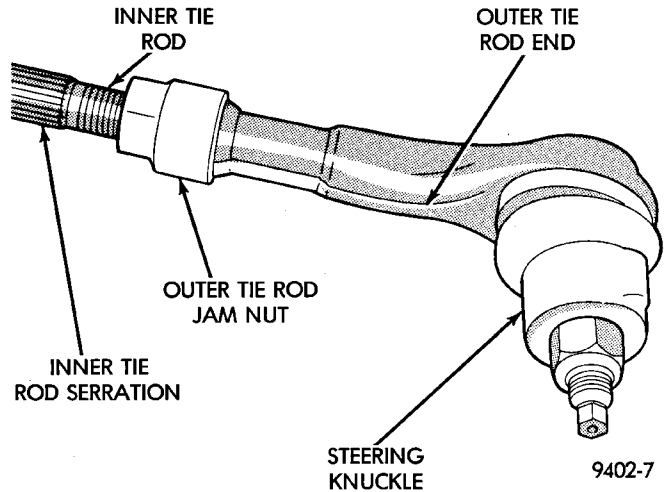

Fig. 19 Outer Tie Rod
(1) Loosen the inner tie rod to outer tie rod jam nut (Fig. 19).
(1) Install outer tie rod onto inner tie rod. **Make sure jam nut is on inner tie rod (Fig. 19).**
(2) Do not tighten jam nut.
(3) Install the tie rod end into the steering knuckle. Start tie rod end to steering knuckle attaching nut onto stud of tie rod end. While holding stud of tie rod end stationary, tighten tie rod end to steer-
(4) Adjust the front Toe setting on the vehicle. Refer to the Toe Setting Procedure in Front Suspension Service Procedures in this group of the service manual. Refer to the Specifications Section at the end of this group for the desired front Toe specification.
(5) Torque the tie rod jam nut (Fig. 19) to a torque of 55 N·m (40 ft. lbs.) torque.
(6) Adjust the steering gear to inner tie rod boots at inner tie rod if they became twisted during Toe adjustment.